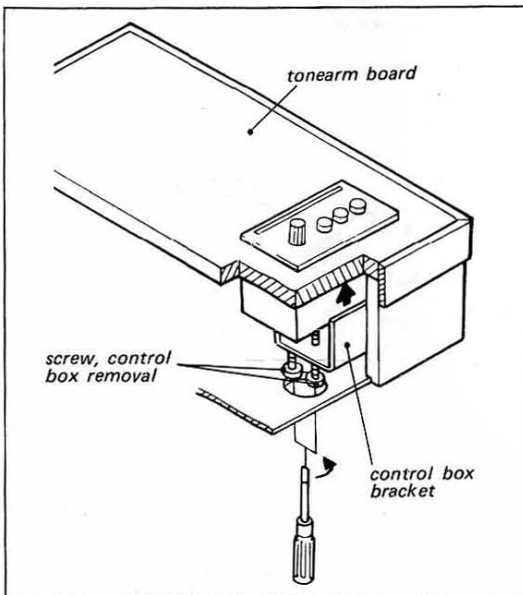

Fig. 2-7. Control box disassembly (1)
1. Remove the two screws from the bottom of the control box as shown in Fig. 2-7.